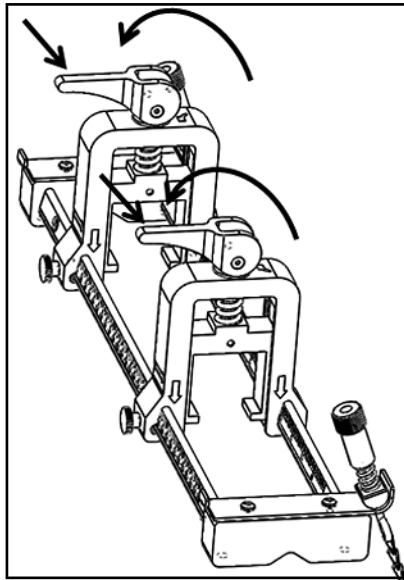

Figure 22: Released Cams
7. Release the cams on both transducer clamps so that the transducers are pushed towards the pipe to ensure that the couplant completely fills the gaps between the transducer faces and the pipe surface (see Figure 22 below).